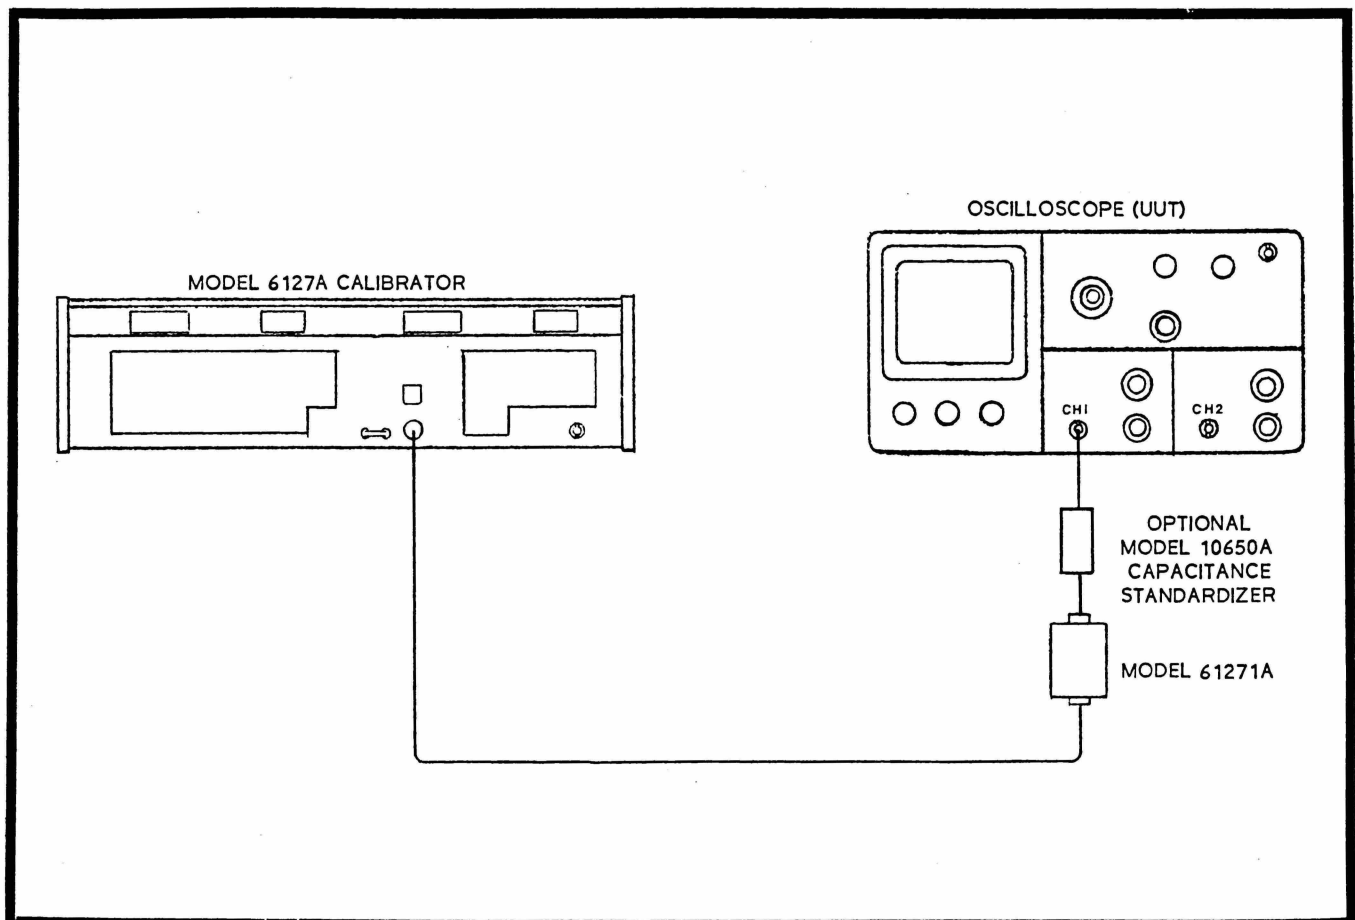

Figure 3-12. Volts/Div Mode, Equipment Set-Up
a. Select the VOLTS/DIV OUTPUT mode to provide squarewaves having extremely flat tops and bottoms, a precisely known peak-to-peak amplitude and a crystal controlled frequency. Attach the Model 61271A Accessory Head to connect the Calibrator signal to the oscilloscope amplifier (UUT). (Refer to figure 3-12 for test equipment set-up.)